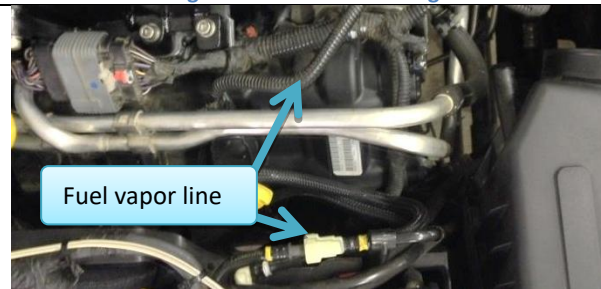

Figure 34: Fuel vapor line (white connector).
20. Remove plastic fuel vapor line (Figure 34)